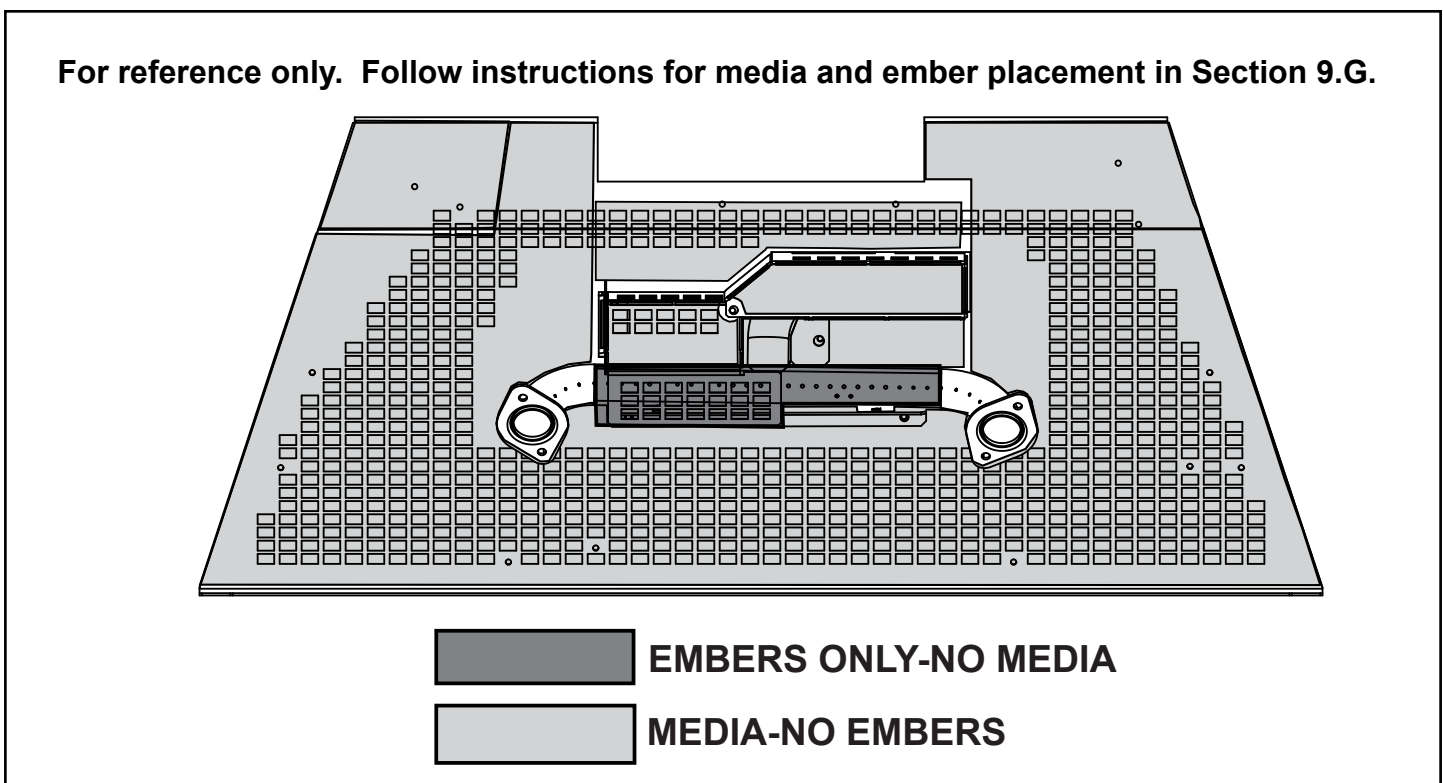

Figure 9.6 Ember and Glass Media Placement Zones
- Place media in zones as shown in section 9.G Log Placement Instructions. Figure 9.6, which shows the media placement zones, is for reference only.
- Place embers as part of the log placement process as shown in Section 9.G of this manual. Figure 9.6, which shows the zone allowed for ember placement, is for reference only.